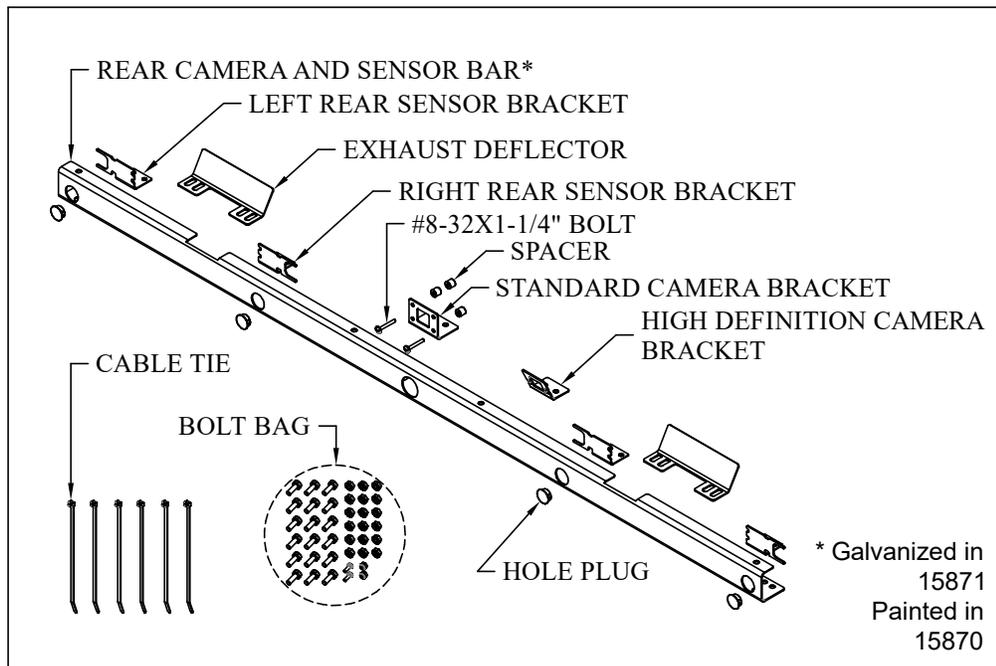

Figure 1: Part Identification.
1. Verify rear camera and sensor bar kit (Figure 1 and Table 1).